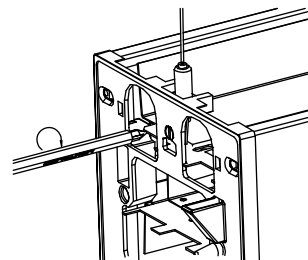

Figure 3
- B. The screw on the gripper-bracket goes into the keyhole on the end casting. Once in place tighten the screw. (Fig. 3)